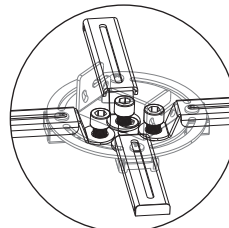

figure 15
3. Connect the installation arms to the projector conversely if the distance of installation holes is less than 120mm. Connect the installation arms (4-2) to the installation base (4-5) via sliding installation button (4-4) as figure 15.